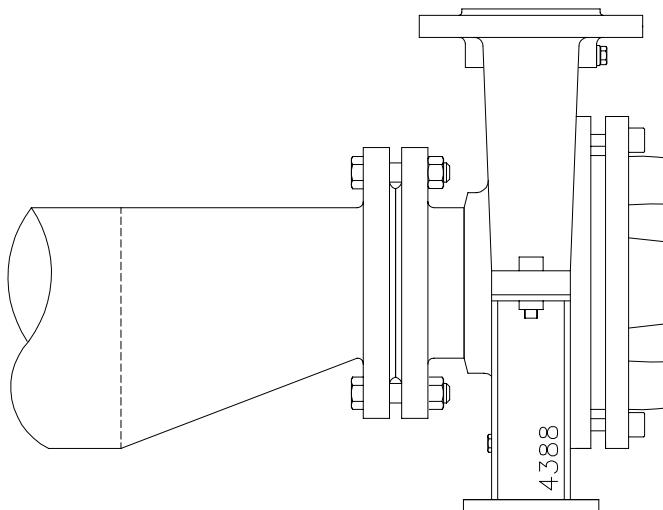

figure 5: Eccentric reducer to the suction flange.
- The suction pipe bore must be adequately dimensioned. This pipe must be as short as possible and lead to the pump in such a way that no air pockets can be created. If this is not possible, a venting facility must be fitted at the highest point. If the suction pipe has a larger bore than the suction connection on the pump then an eccentric reducer must be used, so that no turbulence can be created, see figure 5.